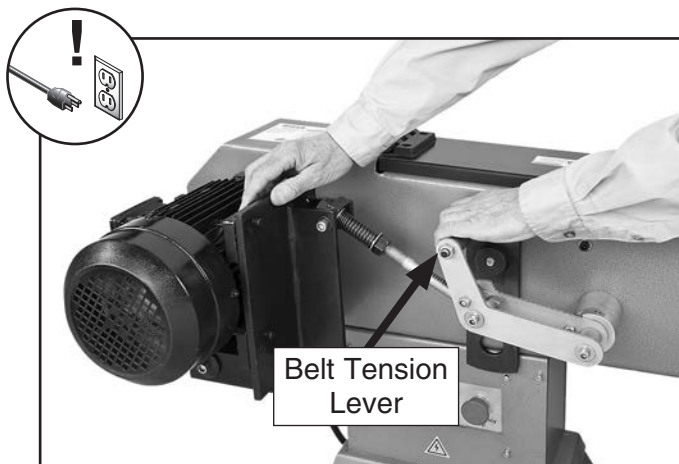

Figure 21. Releasing abrasive belt tension.
2. Pull belt tension lever up and toward front of machine with one hand as you guide motor forward with other hand (see **Figure 21**). This releases abrasive belt tension.